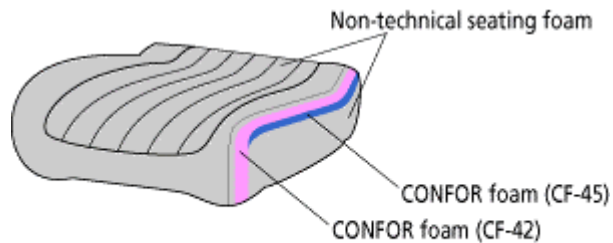

Figure 2: Example of Composite Ergonomic Cushion
With CONFOR foams, it is possible to achieve numerous ergonomic properties in a design that traditionally would require the use of multiple materials, some of them used in great quantity and at great cost, coupled with structural or mechanical elements. A relatively thin layer of CONFOR foam, used in combination with traditional high-resilience (HR) seating foams, can significantly and cost-effectively increase comfort levels in most applications. (See Figure 2.)